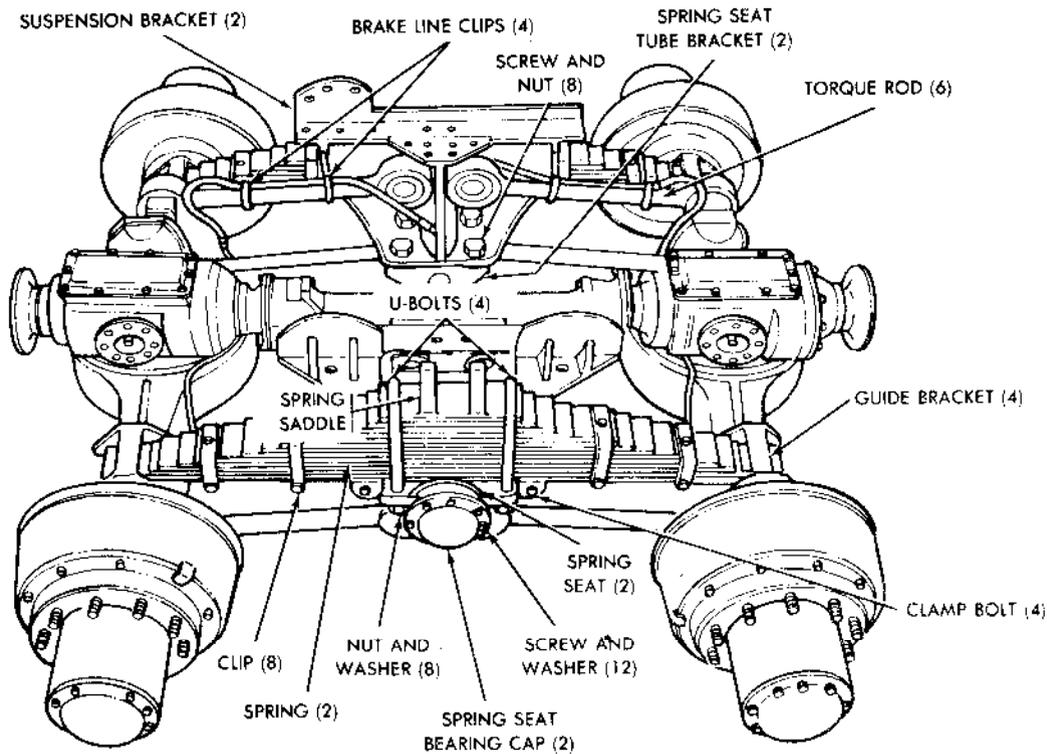

Figure 2-174. Rear Suspension System.
2-184. General. Two identical rear axle assemblies, mounted in tandem, are included in the rear suspension system (fig. 2-174). The rear axle assembly is a hypoid, double-reduction, single-speed type. Three identical torque rod assemblies, two at the right end of the axle and one at the left end of the axle, connect each rear axle assembly to the rear suspension brackets. These torque rods not only maintain the correct relative positions of the rear axle assemblies.
but also transmit driving and braking forces from the axles to the frame. A differential and carrier assembly, mounted at the top center of the axle housing transmits power from the transfer-to-forward-rear-axle and forward-rear-axle-to-rear-axle propeller shafts (fig. 2-174) to the left and right drive shafts inside the axle housing.
(1) Remove wheels from both rear axles to provide access to spring seats to be removed. Support axles with blocks or jack stands.
(2) Place jack under cross tube connecting left and right spring seats. Raise jack sufficient to remove load from springs.
(3) Remove clamp bolts from front and rear ends of spring seats (fig. 2-174).
(4) Remove four nuts and washers from U-bolts and remove U-bolts.
(5) Remove six screws and washers, securing spring seat bearing cap and remove cap and gasket (fig. 2-174).
(6) Remove outer bearing adjusting nut, washer and inner 0-bearing, adjusting nut from cross tube.
(7) Pull spring seat and bearings from cross tube.
(8) Remove dust seal washer, two dust seals, wiper retainer, wiper; grease seal and two bearings and caps from spring seat.
(9) Clean all parts in dry cleaning solvent. Type II (SD2) Fed. Spec. PP-680. Wire brush or buff if required.
(10) Inspect bearing and cups for pitting and wear. (Place special emphasis on inner bearing and cup.) Replace, if required.